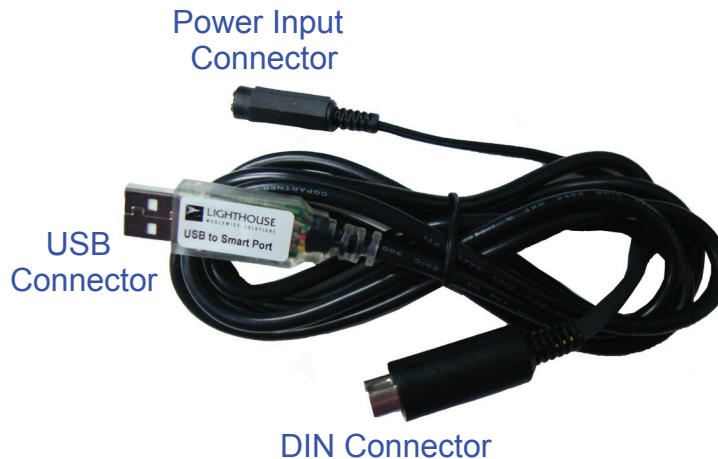

Figure 3-1 *SmartPort* cable Connections
3. Refer to Figure 3-1 and insert the **SmartPort** cable's USB connector into a USB port on the computer. The computer should acknowledge the cable and report that it has found a new device, a Serial USB cable, and is installing its drivers. A COM port will be assigned to the cable.